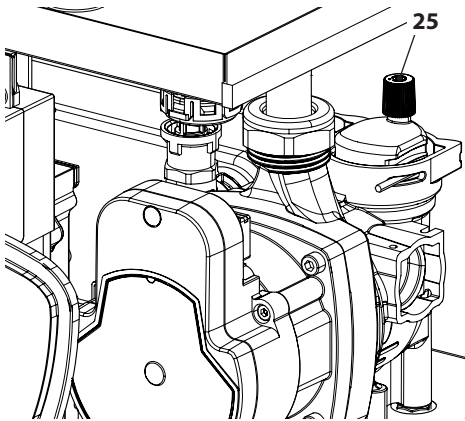

Figure 9.11
- To make draining easier, unscrew the automatic bleed valve cap 25 in Figure 9.11.